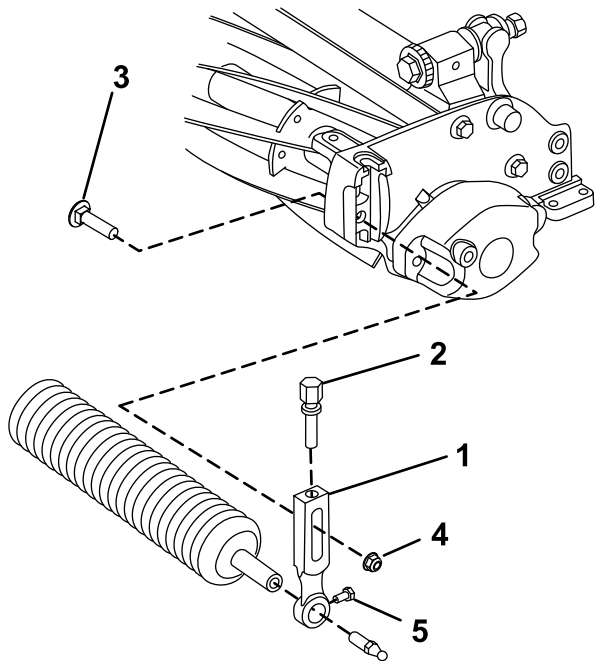

Figure 3
1. Remove the plow bolt and flange locknut securing one of the height-of-cut arms to the cutting unit side plate (Figure 3).
2. Loosen the roller-mounting screws in the height-of-cut arms (Figure 3).
3. Slide the roller shaft into the height-of-cut arm on the opposite end of the cutting unit (Figure 3).
4. Slide the height-of-cut arm onto the roller shaft (Figure 3).
5. Loosely secure the roller to the cutting unit with the height-of-cut arm and fasteners previously removed (Figure 3).
7. Tighten the roller-mounting screws (Figure 3).